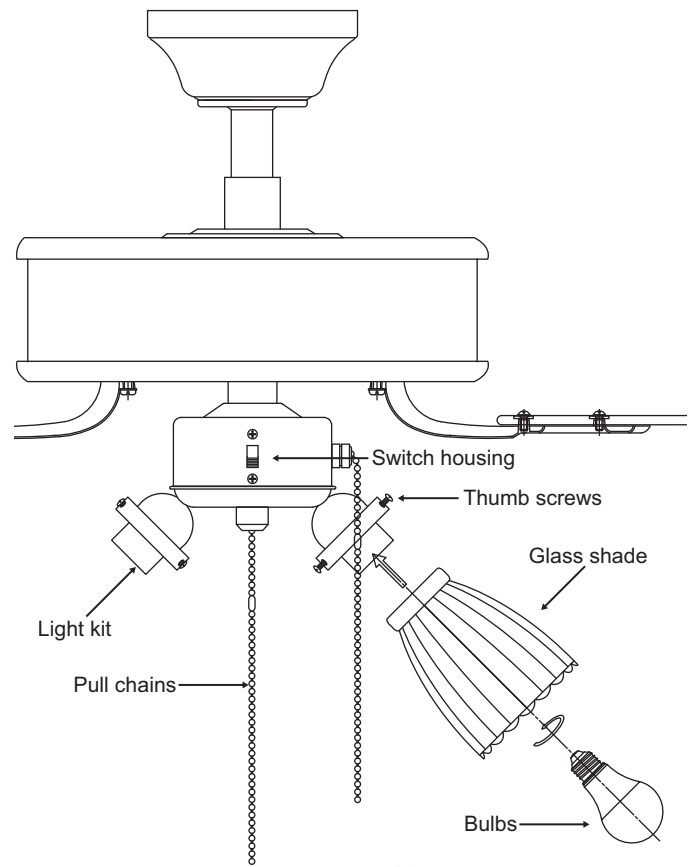

Figure 18
1. Mount the glass shades to the light fixture by unscrewing partway the thumb screws on the glass holders, inserting the glass, then gently tightening the thumb screws by hand evenly to the glass. **DO NOT OVER TIGHTEN.** (Fig. 18)
2. Install 3 x 9W LED bulbs. (provided) (Fig. 18)